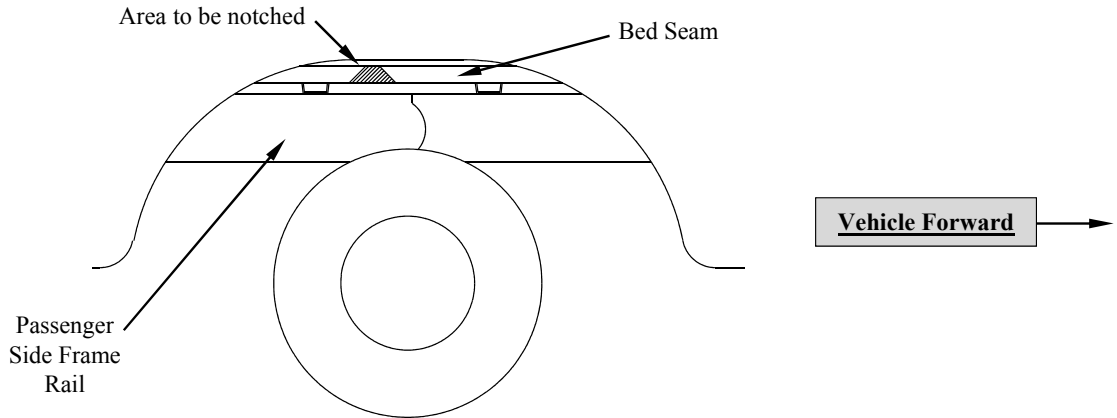

Figure 3
- 2b. **Positioning the cross members by notching the bed seam:** Using a saber saw, cut a notch in the bed seam on the passenger's side of the vehicle, between the vehicle frame and the bed as shown in Figure 3. Slide the forward cross member through the notch cut in the bed seam and above both frame rails. Then slide the rearward cross member through the notch cut in the bed seam and above both frame rails.